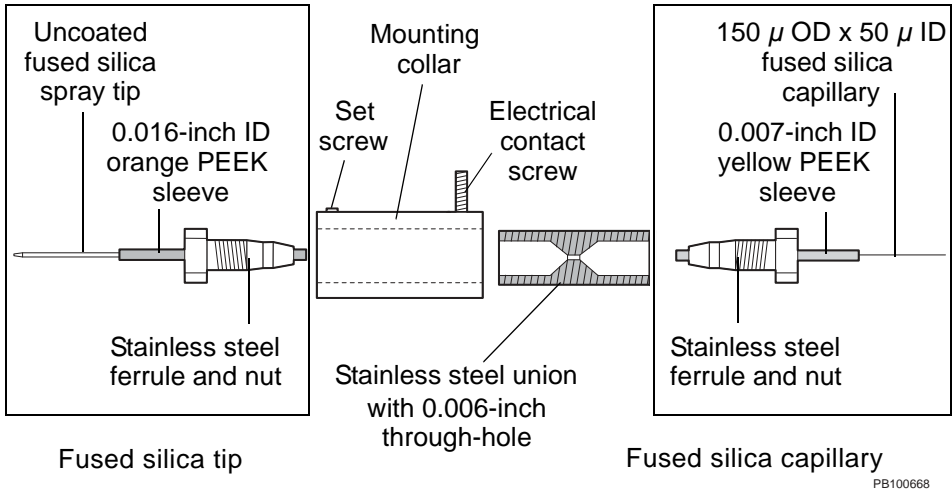
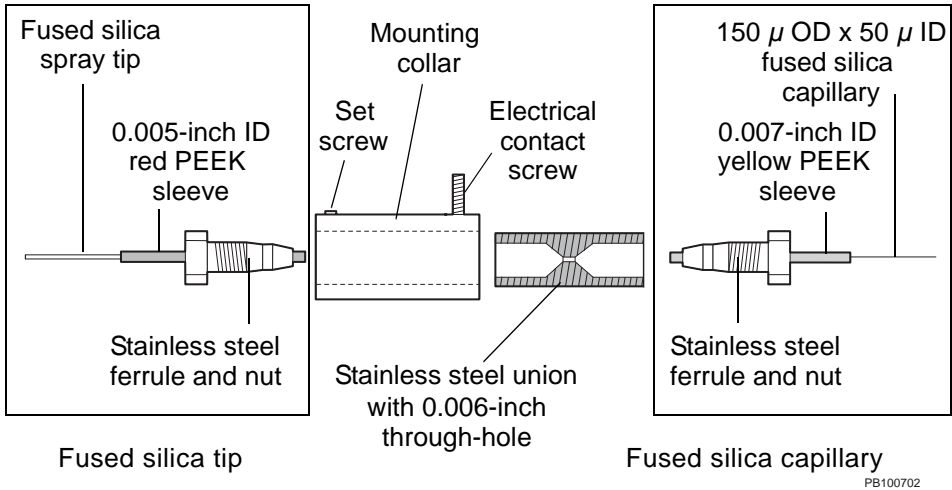

Figure 6-3 Microspray Spray Tip
Figure 6-4 Low-Flow Electropray Spray Tip
Parts of the spray tip and capillary are shown in Figure 6-3 on page 82.
Parts of the spray tip and capillary are shown in Figure 6-4 on page 82.
- **Microspray tip**—Uses a tapered fused silica tip and 0.016-inch ID orange PEEK tubing sleeve (Figure 6-3)
- **Low-flow electrospray tip**—Uses a blunt fused silica tip and 0.005-inch ID red PEEK tubing sleeve (Figure 6-4)
1. Hold the union with a wrench, and use another wrench to loosen and remove the capillary fitting from the back of the union. See Figure 6-3 and Figure 6-4 on page 82.
- Slide the mounting collar (Figure 6-3 on page 82) on to the capillary-end of union until it is aligned with the front of the union.
- Tighten the set screw and electrical contact screw (Figure 6-3 or Figure 6-4 on page 82).